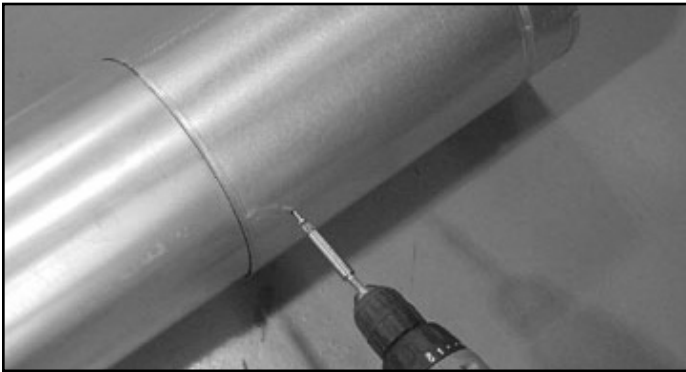

Figure 10.8 Screws into Slip Section
- Secure the pipe and slip section with two screws no longer than 1/2 in. (13 mm), using the pilot holes in the slip section. See Figure 10.8.